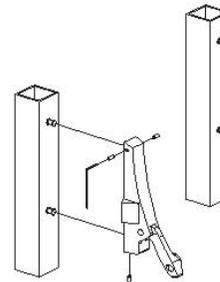

Figure 3
6. Install active housing over mounting studs and tighten set screws (Figure 3).